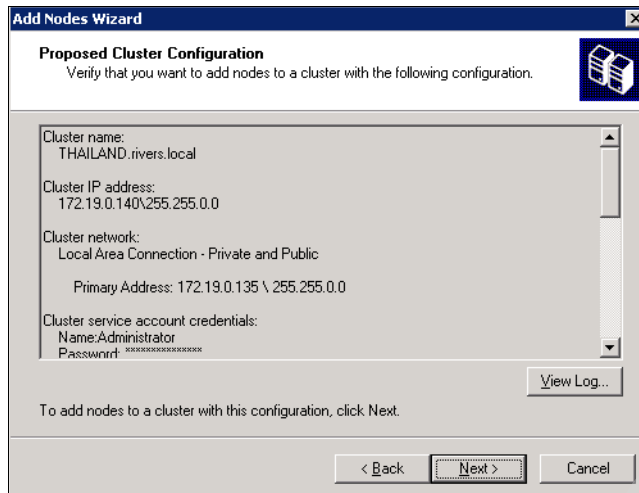

Figure 25-43 Proposed Cluster Configuration
10. Review the proposed cluster configuration and click **Next** to complete (Figure 25-43 on page 637). The wizard will now add the node to the cluster.